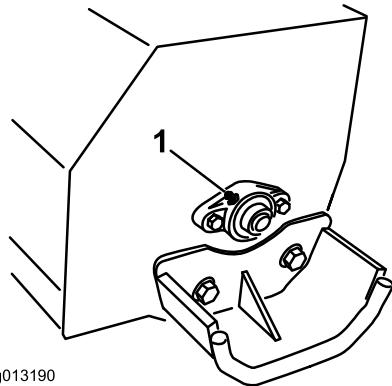

Figure 5
2. Clean the grease fittings with a rag (Figure 5).